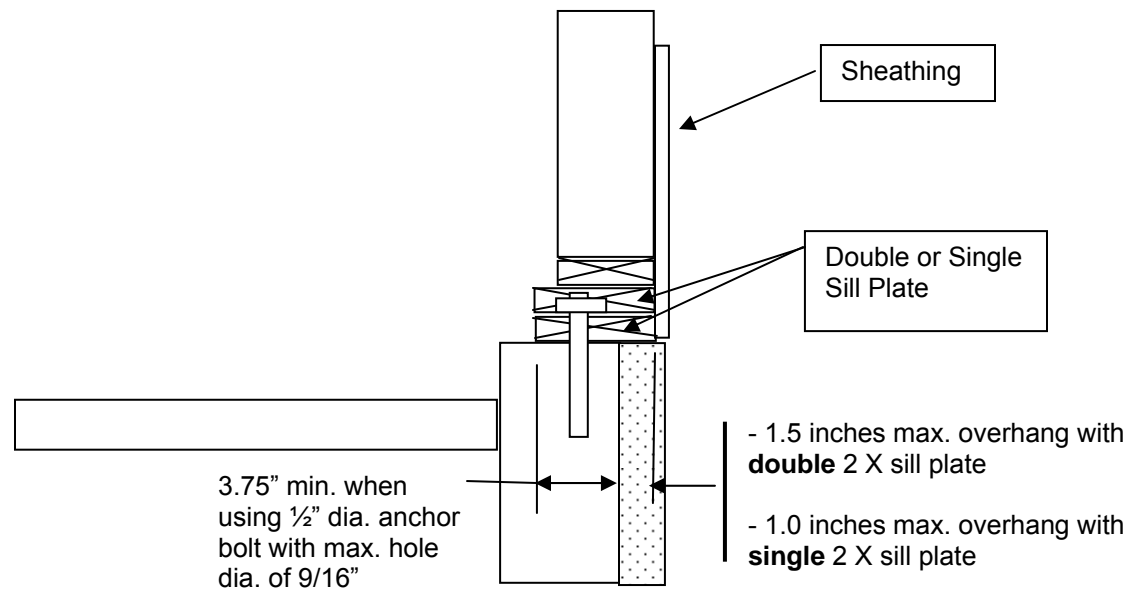

Figure 4
1. Sill plate overhang limited to $\frac{1}{2}$ the nominal thickness when rim joist is resting on outer edge. See Figure 4.
2. s. Comm 21.02 (1)(d) requires a full width sill plate over open-core masonry units.